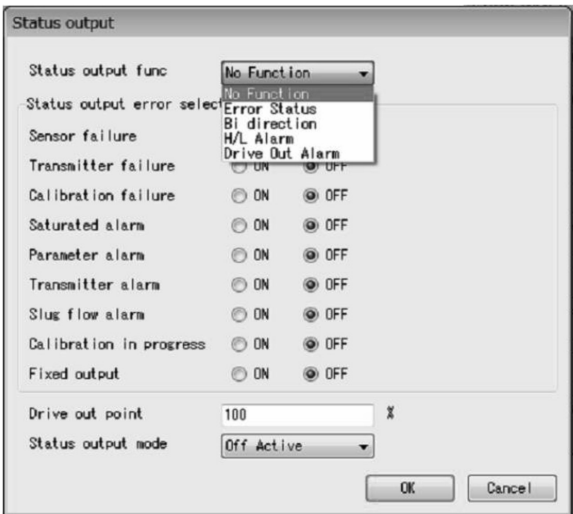

Fig.46
- ③ Click the triangle on the right side of "Status output func" as shown in Fig. 46, and select the function to set for status output from the drop-down list.